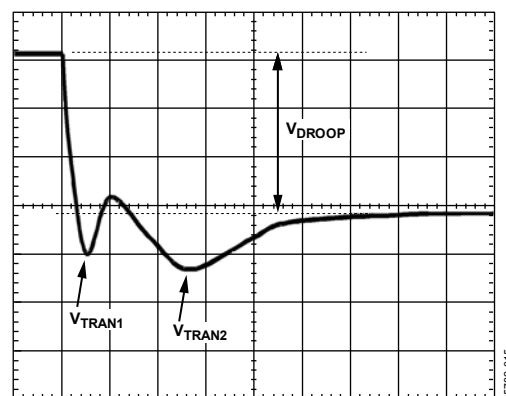

Figure 29. Transient Setting Waveform, Load Step
15. Users should see a waveform that similar to the one in Figure 29. Use the horizontal cursors to measure  $V_{ACDRP}$  and  $V_{DCDRP}$  as shown. Do not measure the undershoot or overshoot that occurs immediately after the step.
19. With dynamic load still set at the maximum step size, expand the scope time scale to see 2  $\mu\text{s}/\text{div}$  to 5  $\mu\text{s}/\text{div}$ . A waveform that has two overshoots and one minor undershoot can result (see Figure 29). Here,  $V_{DROOP}$  is the final desired value.